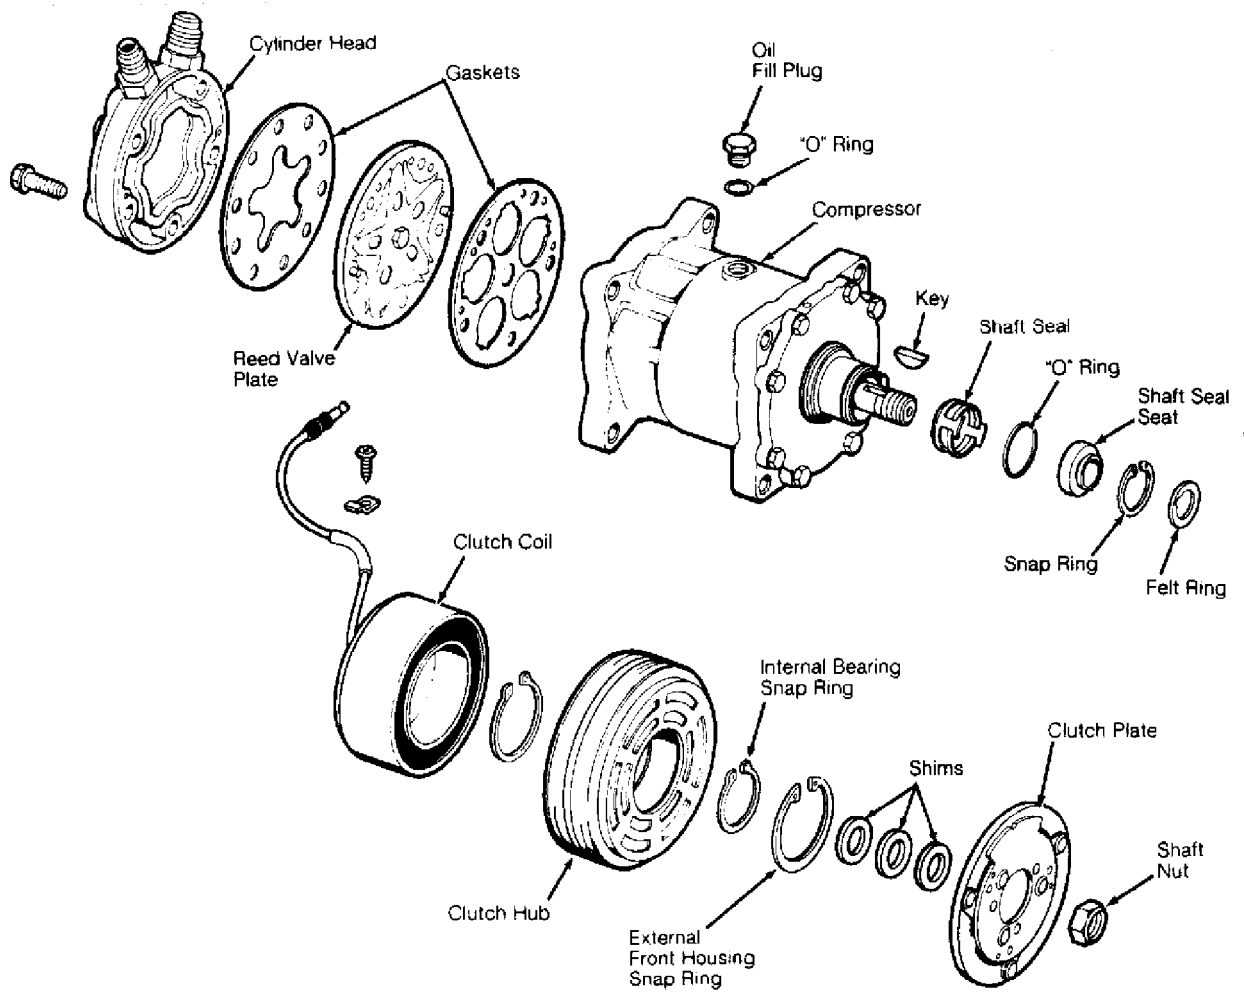

Fig. 14: Sanden 5-Cylinder Compressor
1) Hold clutch hub stationary and remove shaft nut. Remove clutch plate using puller. Remove external front housing snap ring and internal bearing snap ring. See Fig. 14.